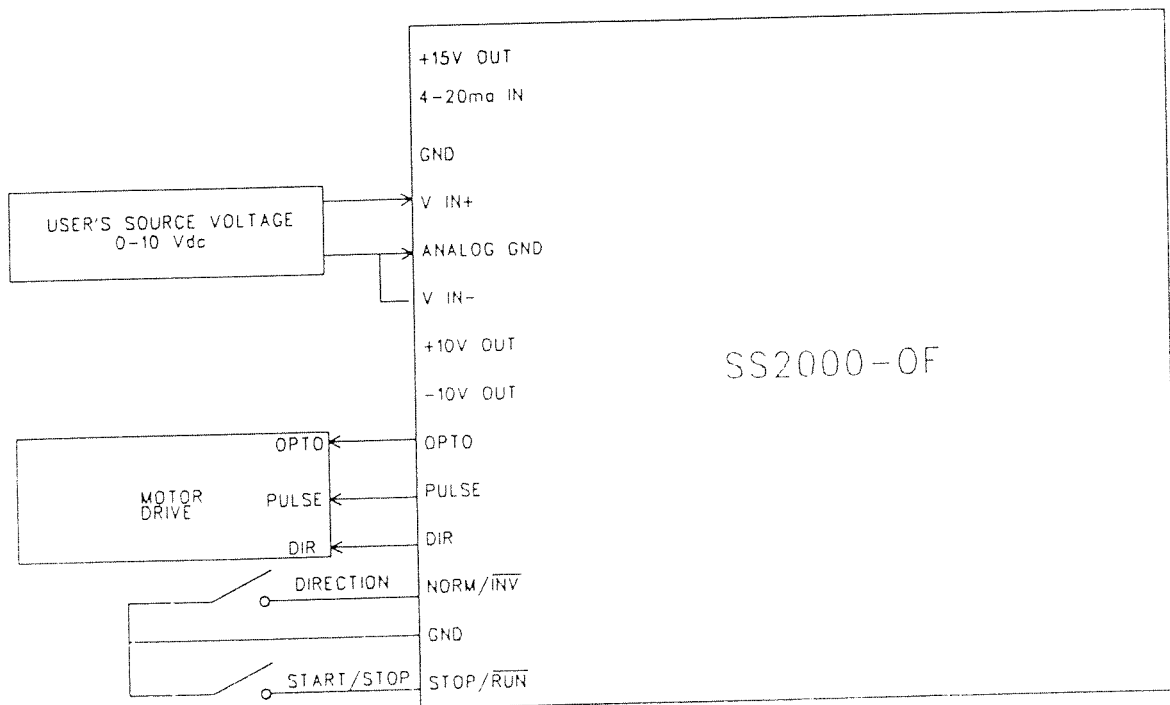

Figure 4.2, User's Voltage Source Control Of Oscillator
Noninverting analog input that controls the rate at which the pulses are sent to the drive. The operating voltage range is -10 V to +10 V. See Figures 4.2 through 4.5 for connection diagrams.
Inverted analog input that controls the rate at which the pulses are sent to the drive. The operating voltage range is -10 V to +10 V. See Figures 4.2 - 4.5 for connection diagrams.
2) Source voltage, 0 - 10 Vdc (Figure 4.2)